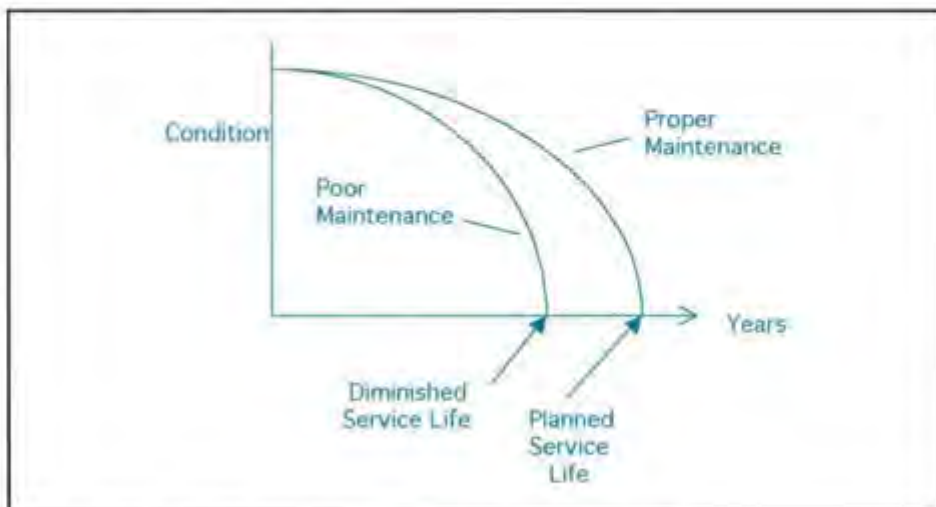
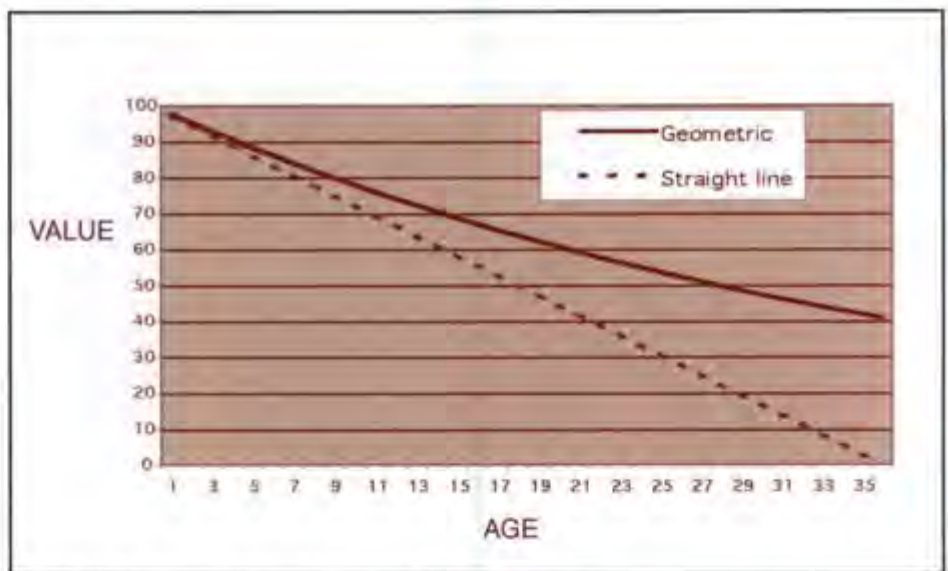

Figure 1. Physical Depreciation of Facilities (hypothetical)
Figure 2. Economic Depreciation of Office Buildings
A key concept in facility management is the physical depreciation of fixed assets over time. Conventional wisdom is that facility condition declines with age as shown in Figure 1. Some variation of this graphic is found in many of the facility management textbooks and papers published in the last decade. It is also built into the forecast models used by many facility consultants. It is a plausible concept repeated so often I suspect many of us assume it is demonstrable fact.
To use Figure 1 as the basis for an actual funding plan—that is, how much need be spent on recapitalization as a facility ages—one would need the following things:
- **An empirically derived depreciation curve.** Even with proper maintenance, the condition of a facility reaches a zero point at some age, according to Figure 1. Yet, there is no study that we are aware of that demonstrates the actual decline of condition—however that is measured—with
Thus, I would argue we know very little about the relationship shown in Figure 1 and would recommend that it not be used as the basis for prudent recapitalization estimates. Any proposal to use this approach should be met with a simple reply: show me the data.
Hulten and Wykoff's basic finding was that the economic (that is, productive) value of structures depreciates according to a geometric trend as shown in Figure 2. They derived economic depreciation rates for 14 classes of structures. Others have adapted these results for a broader class of fixed assets.³
In comparison with the view of physical depreciation shown in figure 1, the example of economic depreciation calculated for office buildings (shown in Figure 2) is considerably different.
And third, the depreciation trend shown in Figure 2 is based on actual data, rather than the hypothetical relationship shown in Figure 1.